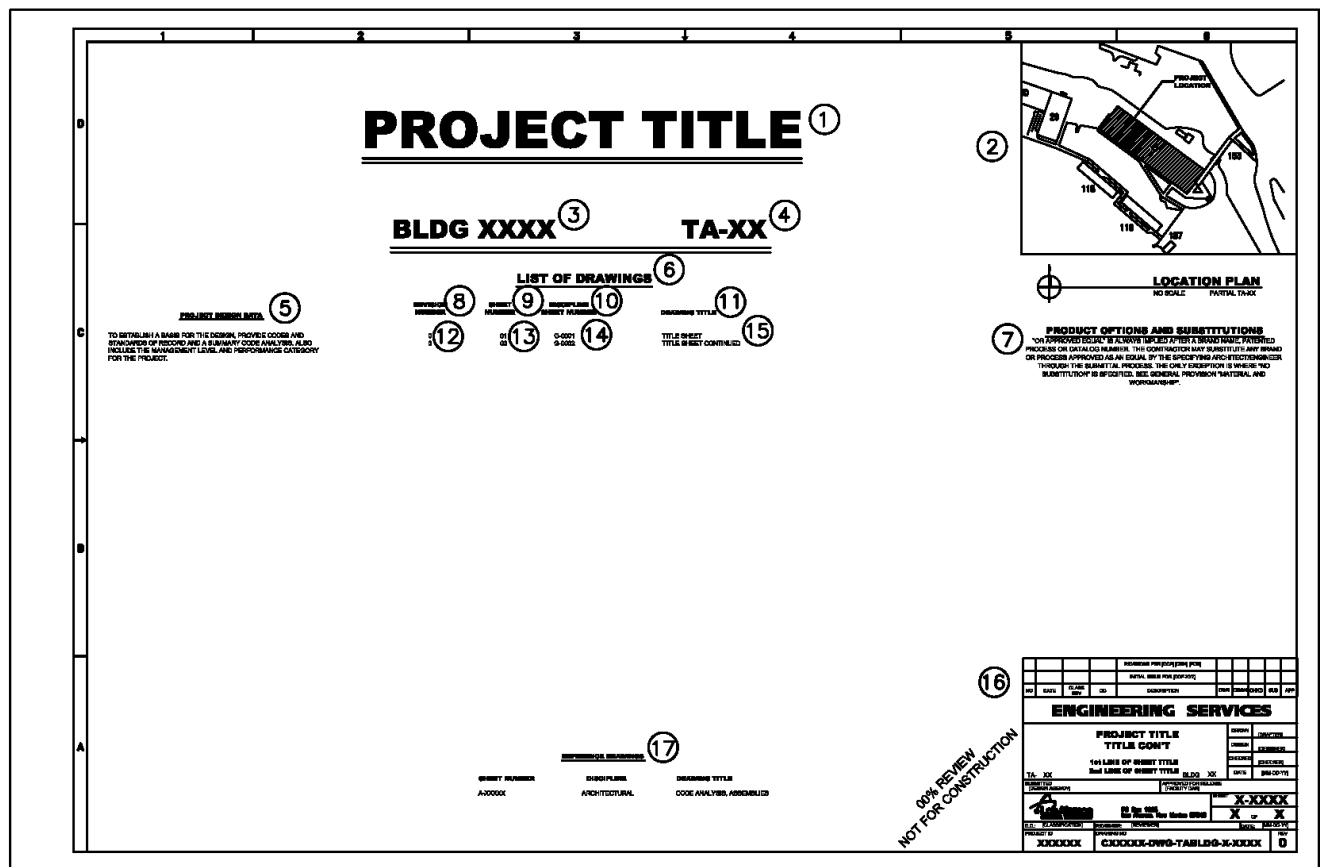
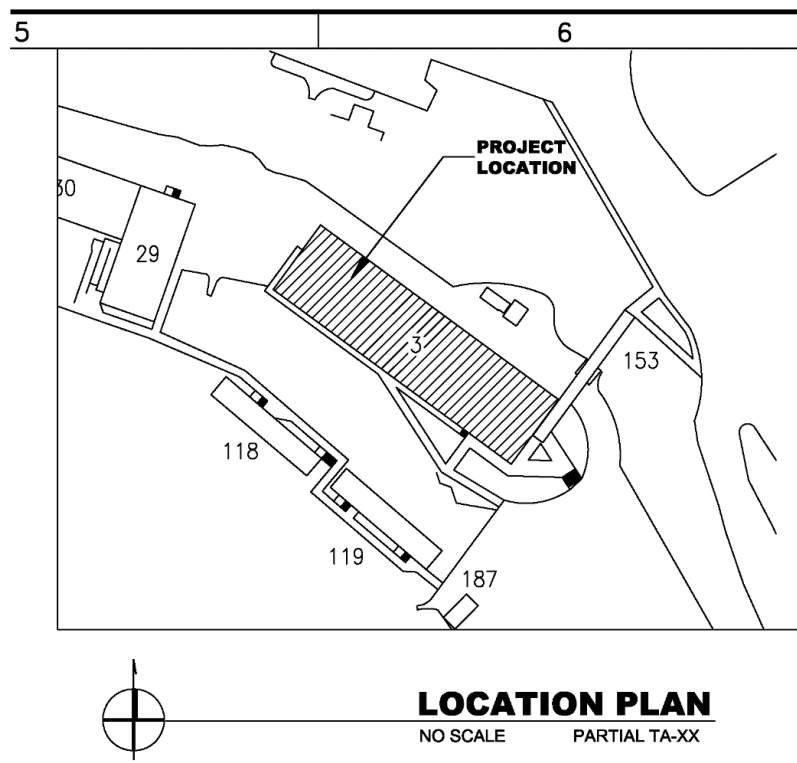

Figure 203-1. Title Sheet
Figure 203-2. Location Plan Example
| 2 | Location Plan | No scale | A plan that illustrates the location of the project - see Figure 203-1. |
- B. Locate this plan, as illustrated in Figure 203-2 below, on the Title Sheet in the upper right hand corner of the sheet (see Fig. 203-1). The plan and all text shall not cover more than a 7.5" x 7.5" square maximum.